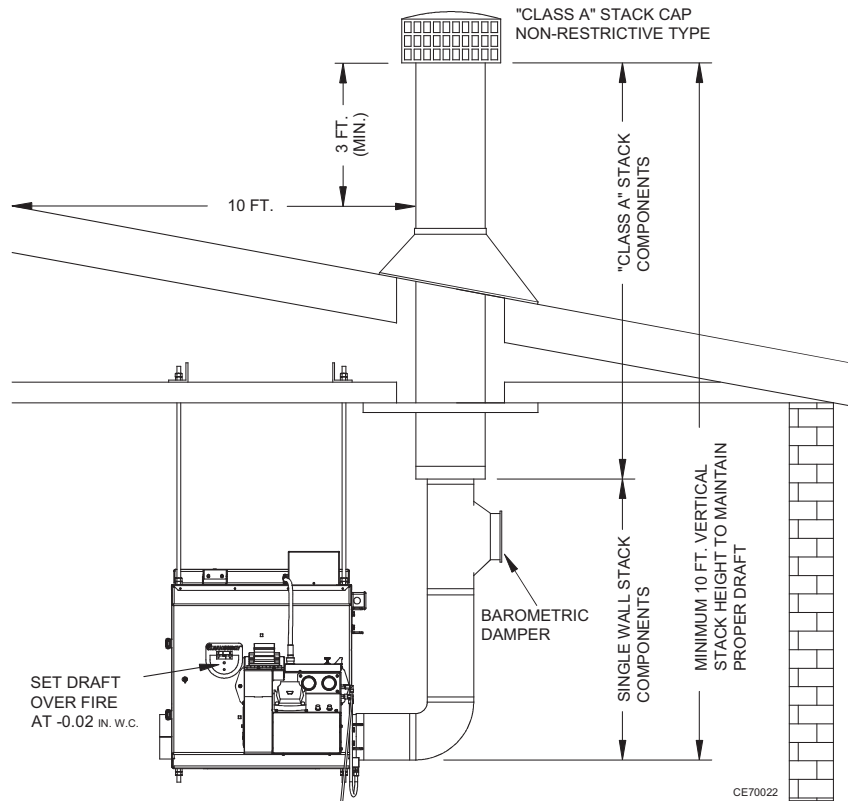
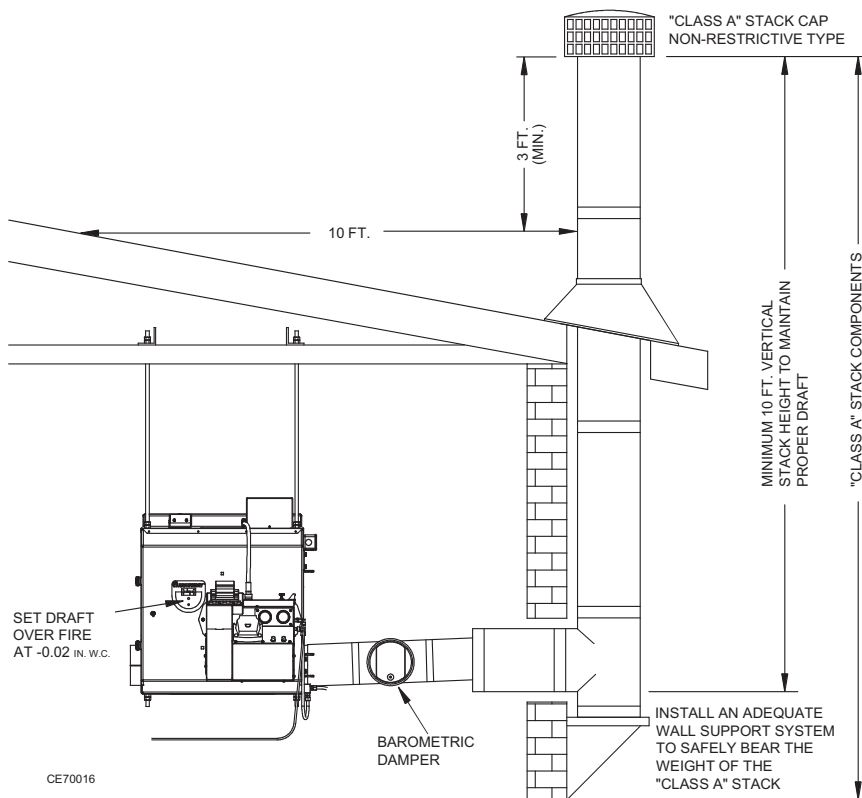

Figure 14: Typical Through-the-Roof Chimney Illustration
Figure 15: Typical Through-the-Wall Chimney Illustration
- (1) Refer to Figure 14 for a typical through-the-roof chimney illustration and Figure 15 for a typical through-the-wall chimney illustration.
- (2) Observe the following requirements when installing the chimney:
- (3) Single wall stack may be used inside the building. Observe proper clearances from combustibles. Do not put single wall stack in areas that may create a burn hazard to personnel.
- (4) Install a barometric damper, as shown in Figures 15 and 16, so that proper draft can be maintained. Follow the instructions provided with the damper for proper installation.
- (5) Use double wall “Class A” insulated stack when making a penetration through the roof or side wall of your building. Install proper flashing around the exterior penetration of the stack to make a water tight seal. Clean Energy Heating Systems, LLC recommends “Dektite” flexible pipe flashing, or equivalent, for through the roof installations.
- (6) Install a “Class A” non-restrictive stack cap only.